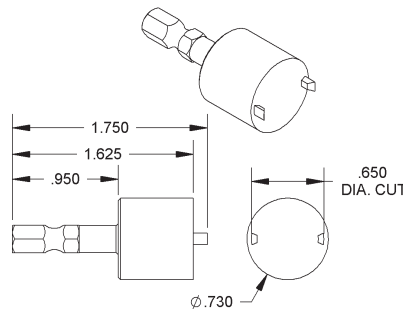
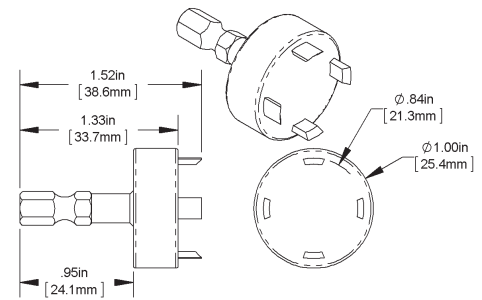

Fig 1. BA/CLN-CUT-50
Fig 2. BA/CLN-CUT4-50
There are two Clean Cut hole cutters designed to remove the plastic plug in the BAPI-Box (BB), BAPI-Box 2 (BB2) or BAPI-Box 4 (BB4) enclosures. The ½" NPSM threaded ports of the BB and BB2 polycarbonate enclosures use the BA/CLN-CUT-50 (Fig 1) while the BB4 uses the BA/CLN-CUT4-50 (Fig 2) for plastic knockout applications. Both have hex shafts for use with any drill and a notch for quick disconnect adaptors. The Clean Cut makes removing the plastic plug easy and fast and produces a full-size professional-looking hole. A built-in stop prevents the tool from pushing through and possibly damaging sensitive electronics within the box. The stainless steel construction keeps its edge and lasts for many hundreds of operations. If necessary, the tool can be sharpened with a hand grinder or file.